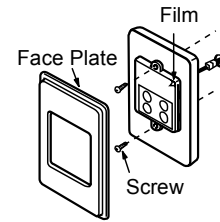

Fig. 4
6. Fix the water controller to the wall using the appropriate fixings as shown in (Fig. 4).
7. Remove protective film from the water controller face as shown in Fig. 4 and replace face plate.